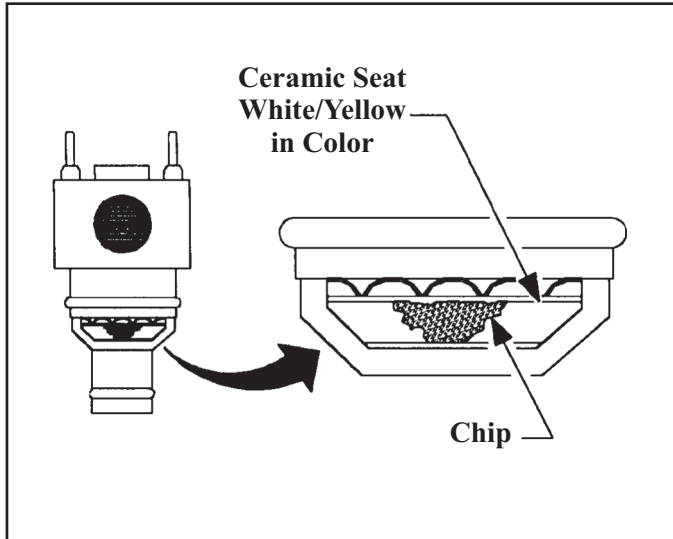

Figure 183
15. Some early 1991 style actuators are known to develop cracks and chips in the ceramic seat as shown in Figure 183. Inspect carefully and replace if necessary.